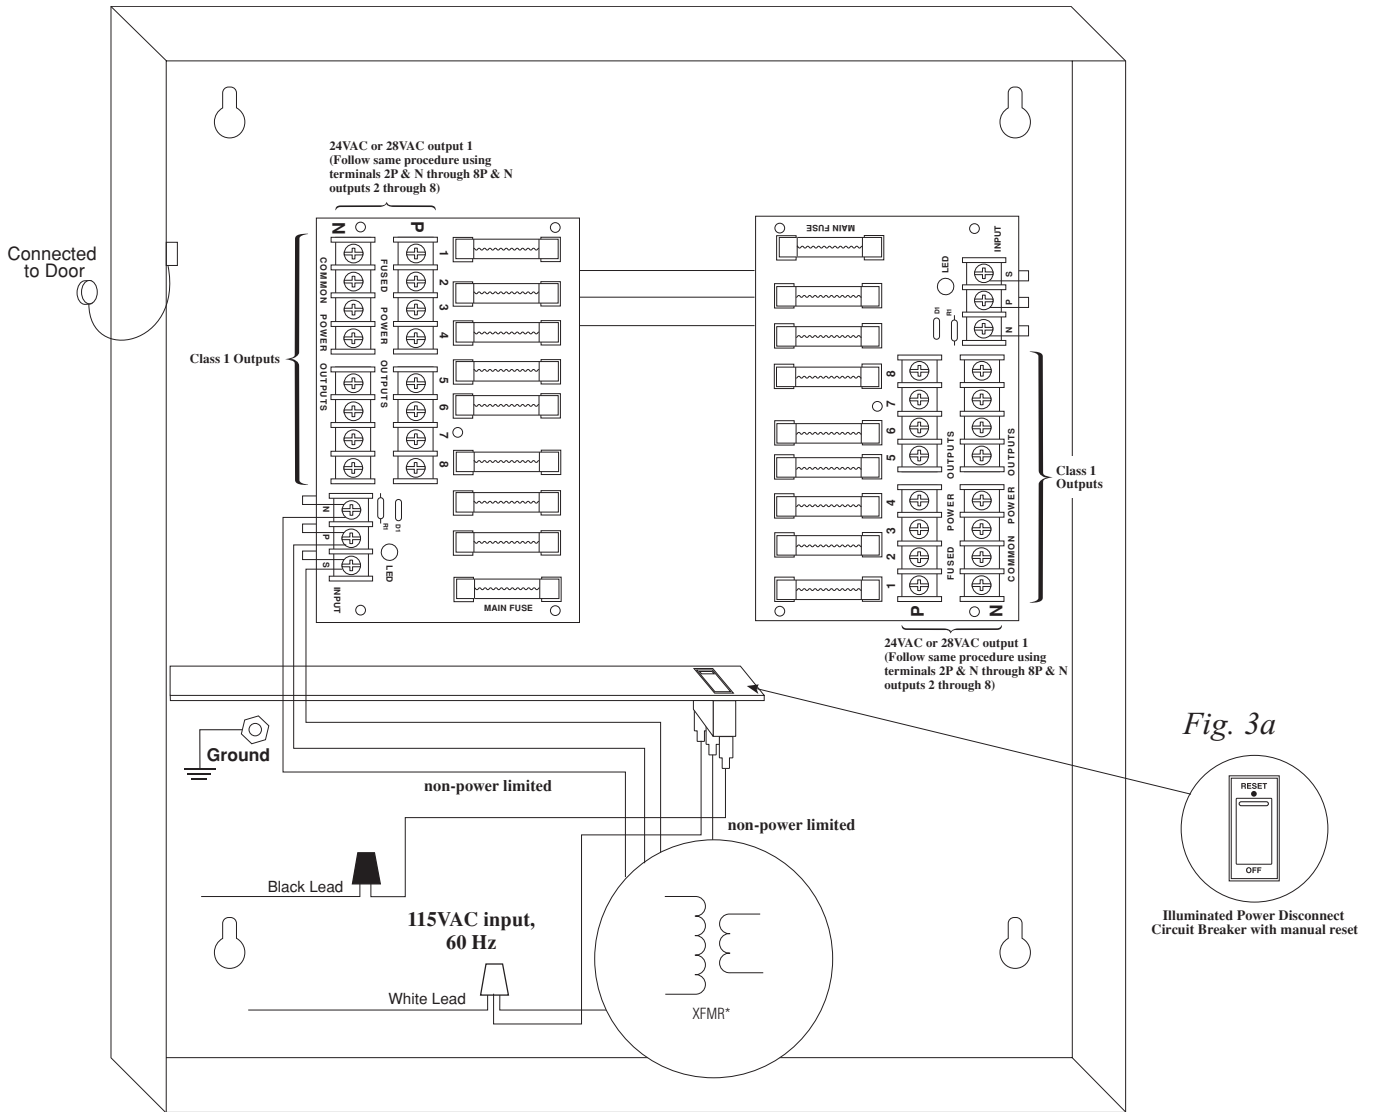

Fig. 3a
2. Set power switch on power distribution board marked [PD] to OFF position for models ALTV2416ULX or ALTV2416ULCBX (*Figs. 1, 2, pgs. 4, 5*). Set power disconnect circuit breaker to OFF position for all other models (*Figs. 3a - 8a, pgs. 6 - 10*).
5. Set power switch on power distribution board marked [PD] to ON position for models ALTV2416ULX or ALTV2416ULCBX (*Figs. 1, 2, pgs. 4, 5*). Set power disconnect circuit breaker to RESET (ON) position for all other models (*Figs. 3a-8a, pgs. 6-10*).
7. Set power switch on power distribution board marked [PD] to OFF position for models ALTV2416ULX or ALTV2416ULCBX (*Figs. 1, 2, pgs. 4, 5*). Set power disconnect circuit breaker to OFF position for all other models (*Figs. 3a - 8a, pgs. 6-10*).
9. Set power switch on power distribution board marked [PD] to ON position for models ALTV2416ULX or ALTV2416ULCBX (*Figs. 1, 2, pgs. 4, 5*). Set power disconnect circuit breaker to RESET (ON) position for all other models (*Figs. 3a - 8a, pgs. 6 - 10*).